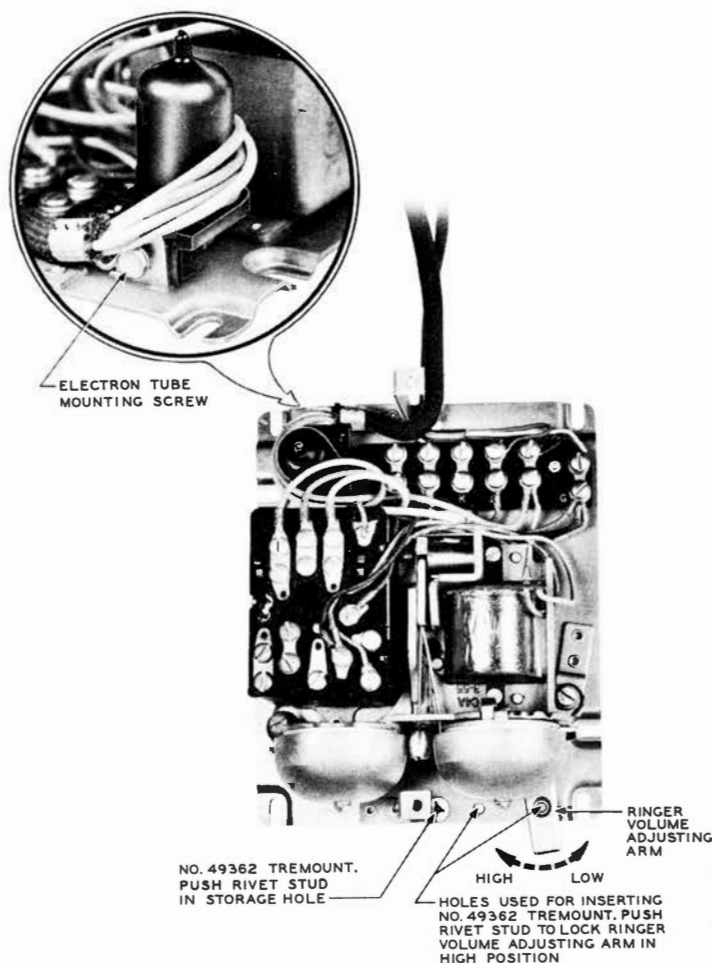

Fig. 9 — Wire and Mounting Cord Terminated in 685- and 686-Type Subscriber Sets
5.09 Fig. 9 shows a typical method of terminating wire and mounting cord in 686-type subscriber set. The method of securing mounting cord in 685-type subscriber set is also shown in Fig. 9.
5.13 Ringer volume control on 685-, 686-, and 687-type subscriber sets normally comes locked in the high position. To enable customer to adjust ringer volume, place 49362 Tremount push rivet stud in the storage hole (shown in Fig. 9).